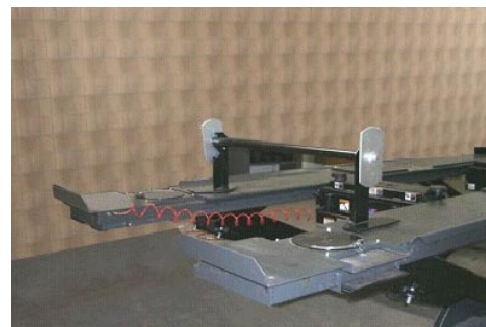

Figure 3-95
7. Place the RCP Check fixture (EAA0256J00A) and stands on the alignment rack just behind the turnplates. (Figure 3-95)